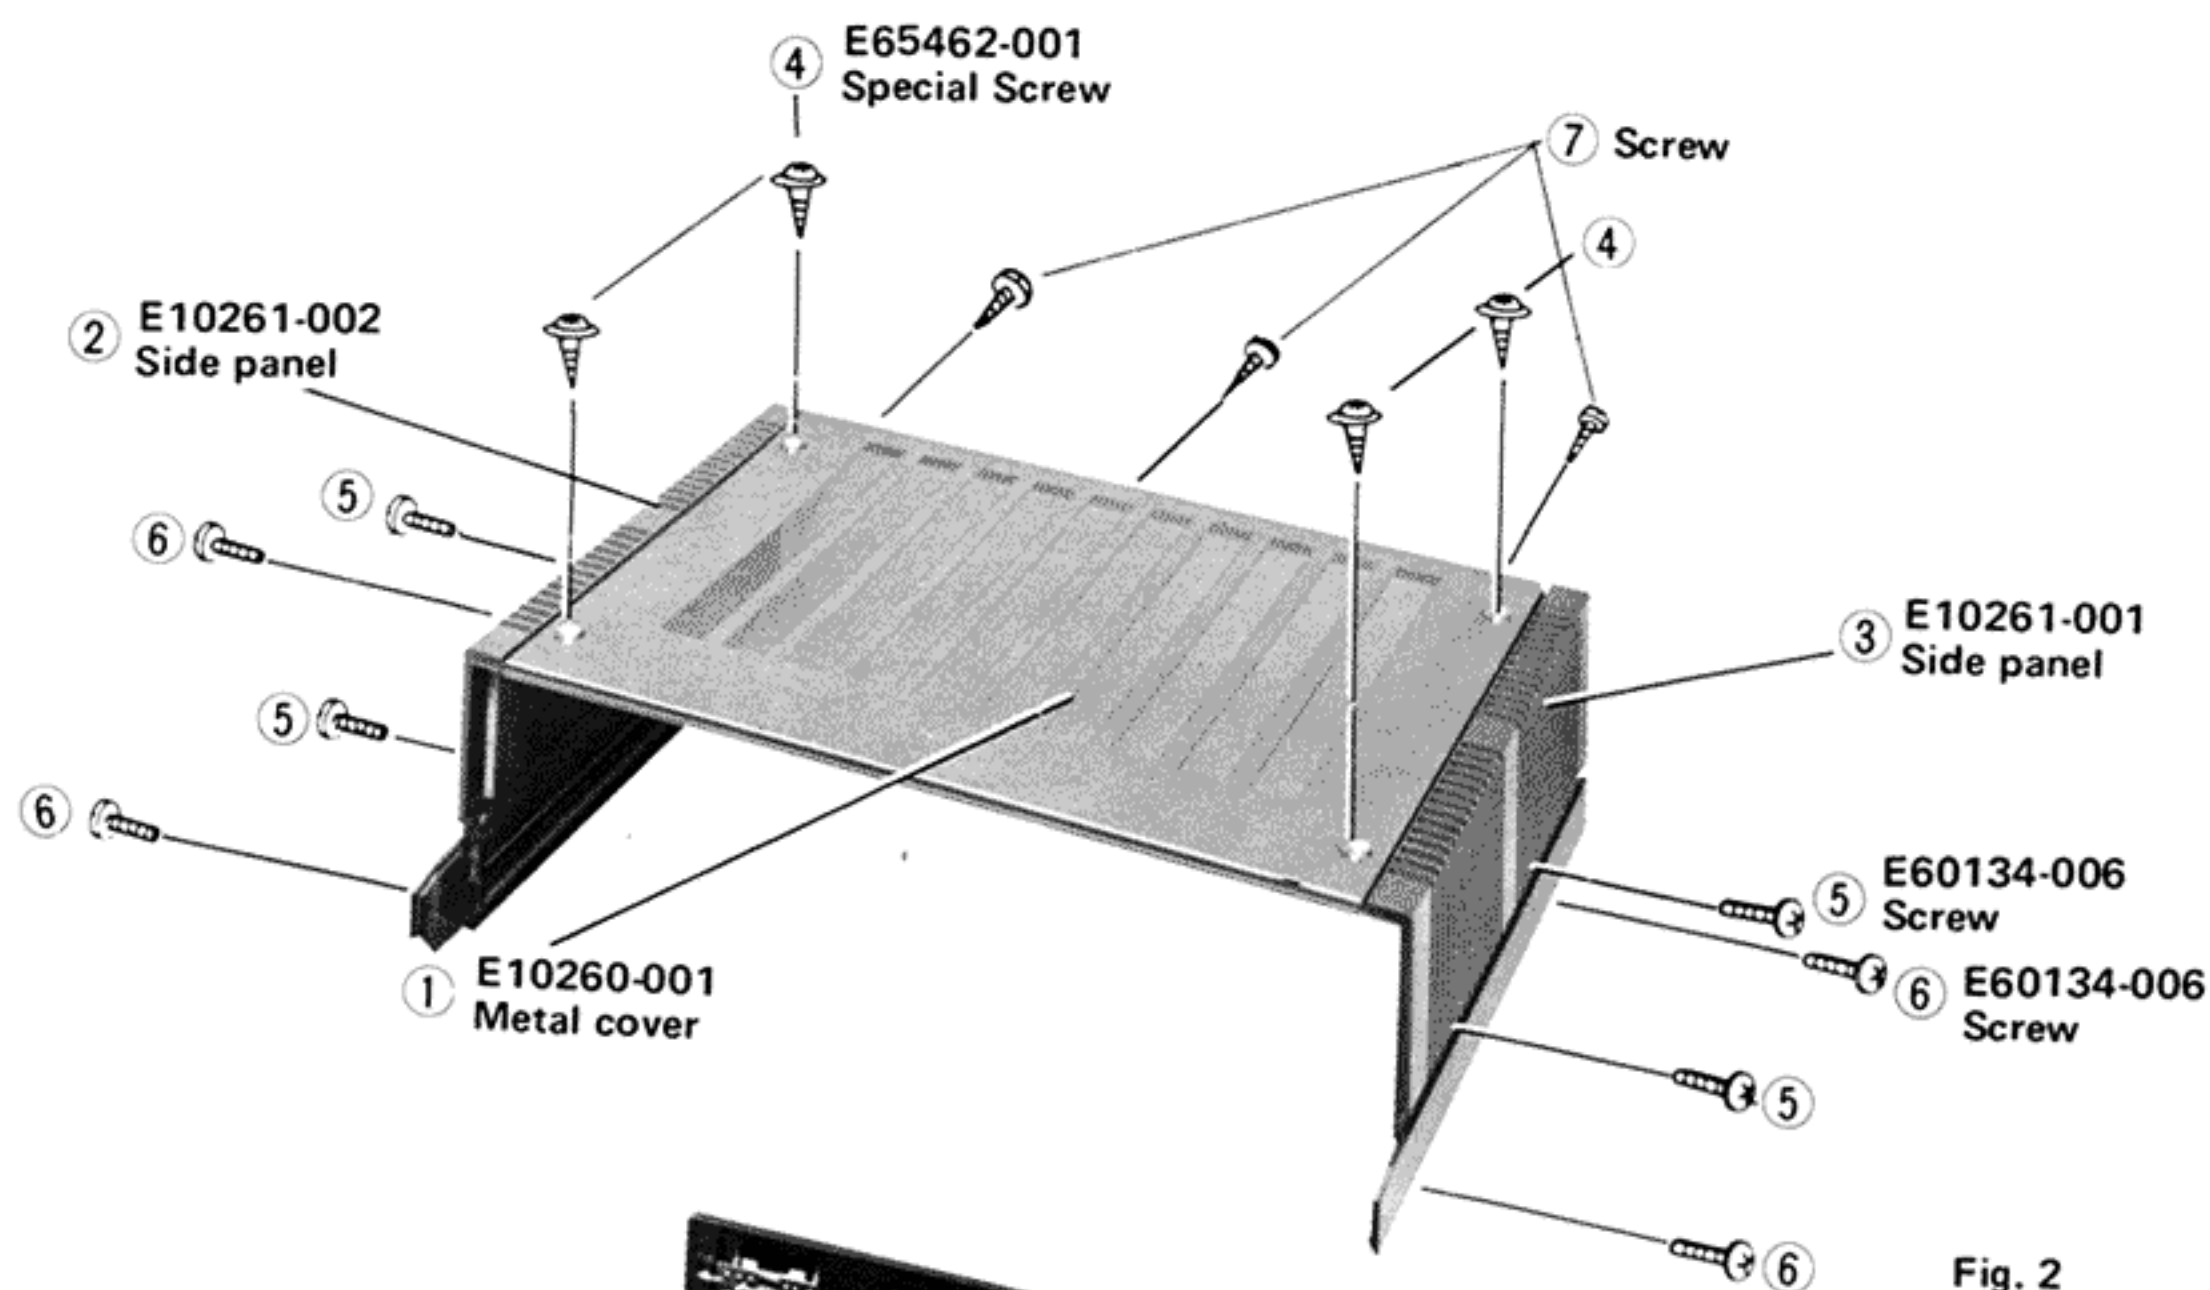

Fig. 2
1. Remove 4 screws (Item No. 5) and also 4 screws (Item No. 6) through the both sides of the cover and 3 screws (Item No. 7) from the back of the top cover. See Fig. 2.